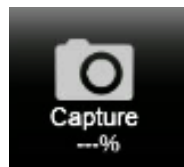

Figure 97: Sample Stream capture icon with percentage
8. Select the **Capture** icon () on the application bar to start the process. When the capture type is Screenshot and Stream, a percentage will be displayed under the Capture icon. (See Figure 97.)